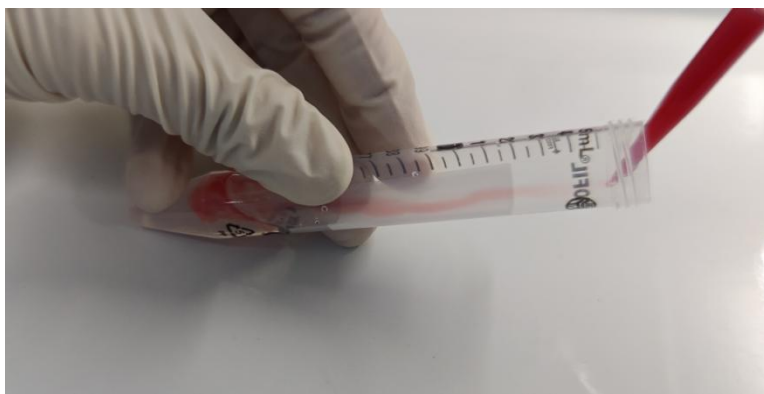

Figure 2. Demonstration of Layered Operation of Cell Suspension and Separation solution
- (1) Place a **70 µm Cell Filter** and **100 µm Cell Filter** on a new 50 mL centrifuge tube. Pre-wash the filter with 1–2 mL washing solution.
- (2) Carefully blow the tissue suspension in the previous 50 mL centrifuge tube with a 5 mL pipette or a Pasteur pipette. After filtering through a **100 µm Cell Filter** and a **70 µm Cell Filter** in turn, slowly add 3-5 mL of **Specialized Washing Solution For Rat liver Sinusoidal Endothelial Cells** to the top of the filter with a clean pipette tip to collect the tissue digestion suspension on the filter. Collect the filtrate in a 50 mL centrifuge tube, centrifuge the cell filtrate at 400 g for 10 minutes, discard the supernatant, and retain the precipitate.
- (3) Resuspend the cell pellet in a 50 mL centrifuge tube using 6 mL of **Special Separation Solution A For Rat Liver Sinusoidal Endothelial Cells**. Centrifuge at 900 g for 15 minutes and discard the supernatant (which contains liver stellate cells, a small amount of sinusoidal endothelial cells, Kupffer cells, hepatocytes, etc.) retaining the precipitate.
- (4) Resuspend the precipitate obtained from the 50 mL centrifuge tube in the previous step using 6 mL of **Special Separation Solution B For Rat Liver Sinusoidal Endothelial Cells**. Take a new sterile 15 mL centrifuge tube and add 3 mL of **Special Separation Solution C For Rat Liver Sinusoidal Endothelial Cells**. Use a 1 mL pipette to collect the cell suspension from the 15 mL centrifuge tube, tilt the tube with the pipette tip against the wall of the tube, and gently blow out the cell suspension along the tube wall to slowly flow into the liquid surface above **Special Separation Solution C For Rat Liver Sinusoidal Endothelial Cells** (as shown in Figure 2), form two layers of liquid (as shown in Figure 3).